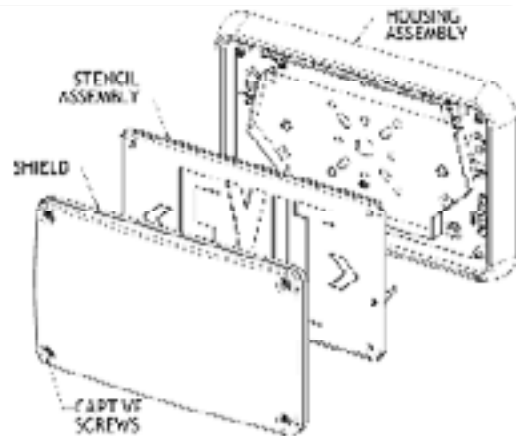

Figure 1
- Disassembly (Fig.1): Remove SHIELD by loosening (4) CAPTIVE SCREWS at corners Remove STENCIL PANEL.